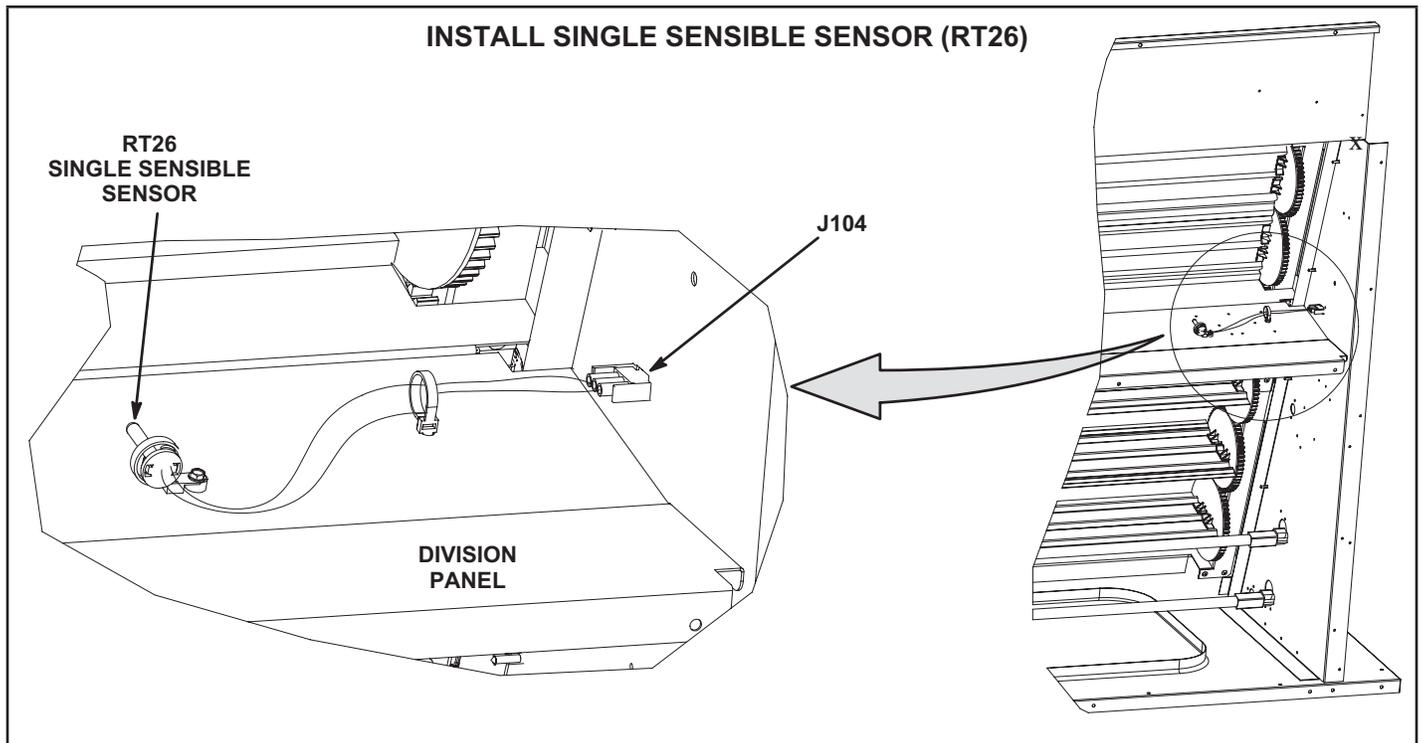
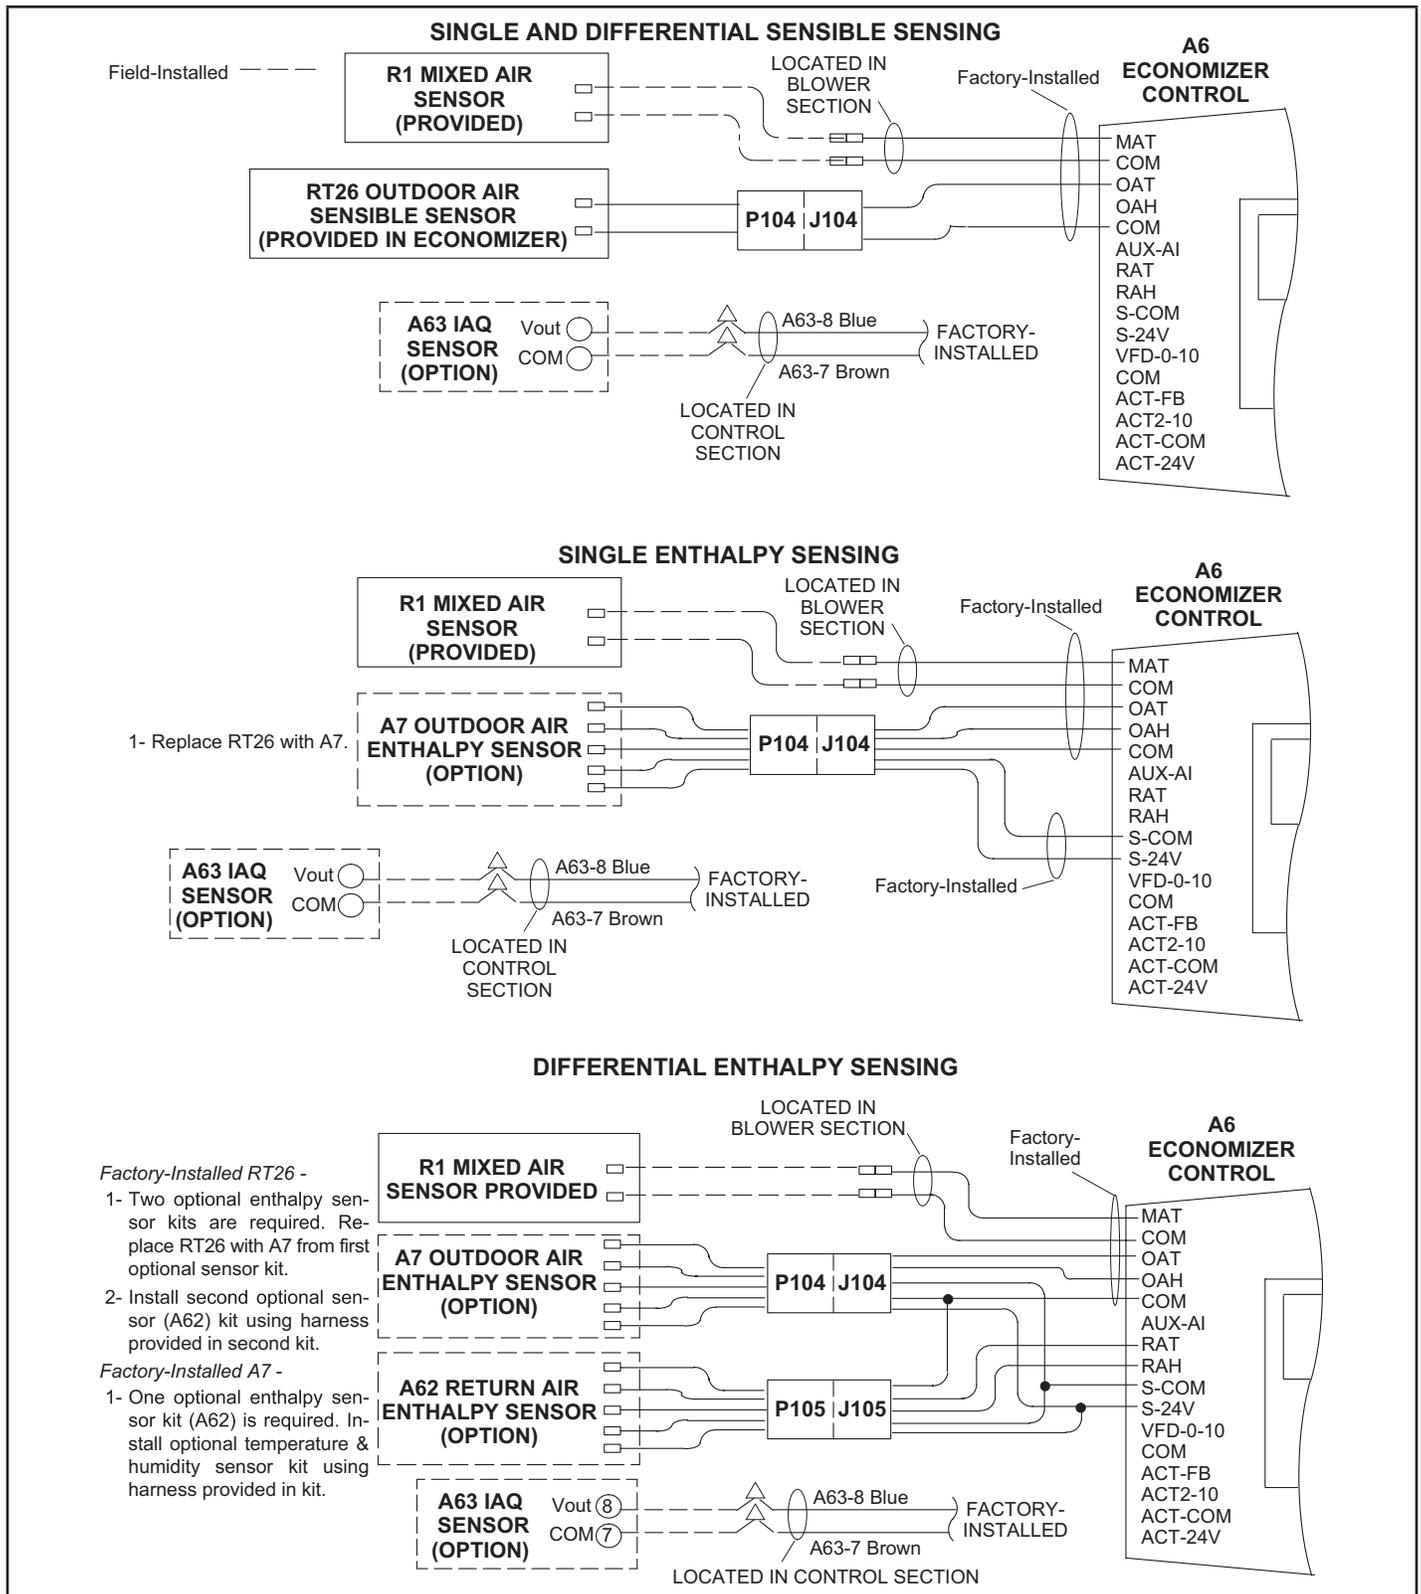

FIGURE 40
FIGURE 41
1 - Install RT26 sensor onto the divider panel as shown in FIGURE 40. Use #6-32 X 7/8" TFS screws provided.
- 1 - Locate brown and white kit harness with wires labeled P104-1 & P104-2 on one end and RT26-1 & 2 on the other end. Insert the connector with wires labeled P104-1 & 2 into J104 jack previously installed on the side of the economizer. See FIGURE 40. Connect wires on other end of P104 harness to RT26 on divider panel. See FIGURE 41.
- 2 - Connect blue A63-8 wire to CO2 sensor Vout lead. Connect brown A63-7 wire to CO2 sensor COM lead. Secure with wire nut. See FIGURE 41.